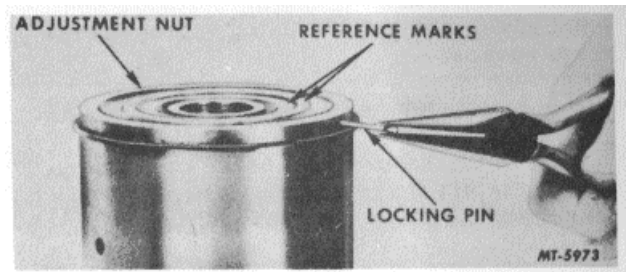

Fig. 21
18. Make reference marks on piston and adjustment nut. Then remove locking pin from valve adjusting nut, Fig. 21.